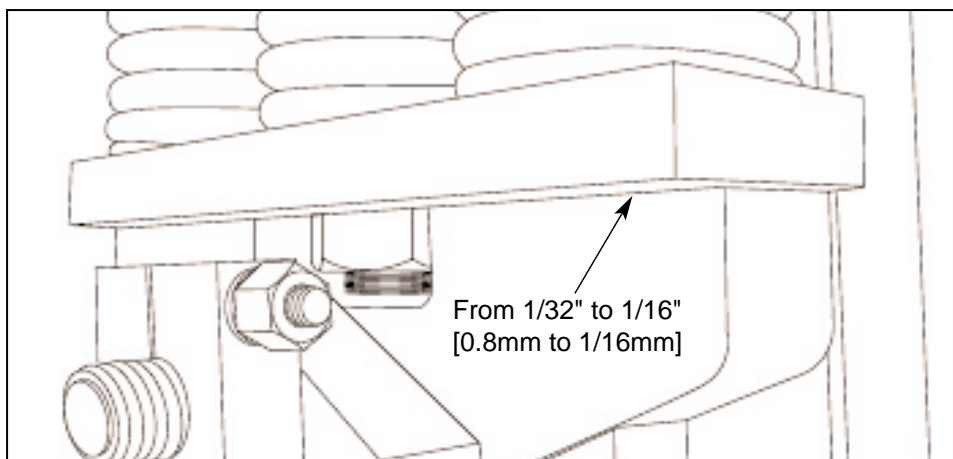

Figure 5.36 SPRING OPENING.
5.10.2 The spring opening should be between $1/32$ " [0.8mm] and $1/16$ " [1.6mm] maximum (see figure 5.36). This is all that is required to make most units on an VIBRAPAC.